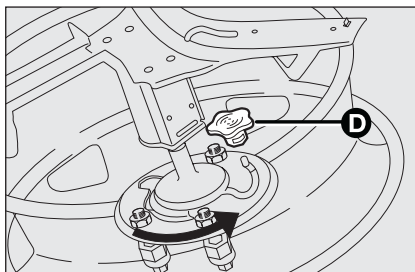

fig. 9d
- Re-attach the wheel onto the support turning it until it reaches the end of the slot (as illustrated in **fig. 9d**) and fasten the ball grip **D-fig. 9d**;